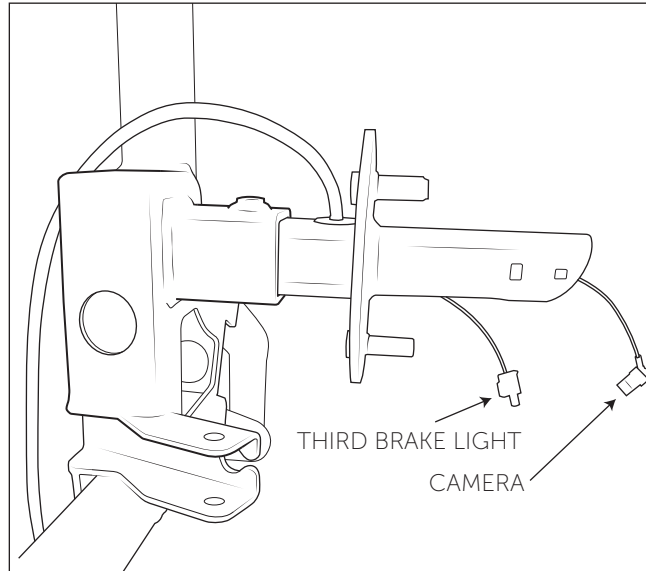

Figure 19
5. Run wiring harness through the top hole in the square tube of the wheel mount. Route connection for the camera through the end of the tube and third brake light through the slot on the bottom of the tube (fig. 19). Push grommet into the hole in the square tube.